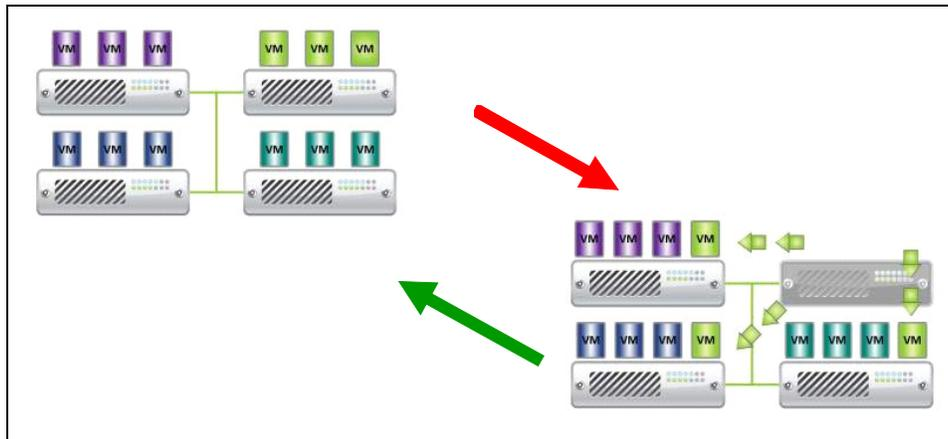

Figure 133. HA Mode with Eaton IPM
- Eaton IPM continues to move the VM from one server to the others, if all servers are powered by different UPSs with different power source (see Figure 133).